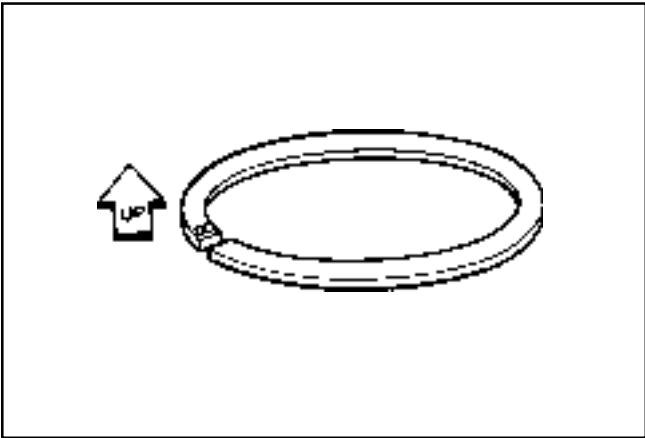

Figure 10-17. Middle Compression Ring.
2. Middle Compression Ring: Locate and identify the compression ring with the "R" marking. Using a piston ring expander, install this ring in the middle groove with the "R" up towards the top of the piston. See Figure 10-17.